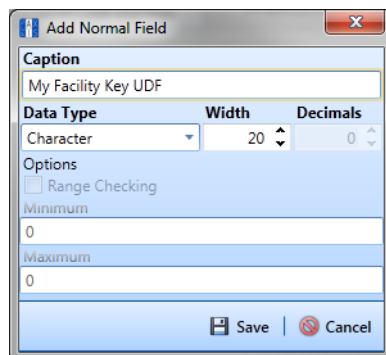

Figure 9-2. Add Normal Field
- 3 Click  **Normal** in the toolbar to open the *Add Normal Field* dialog box (Figure 9-2).